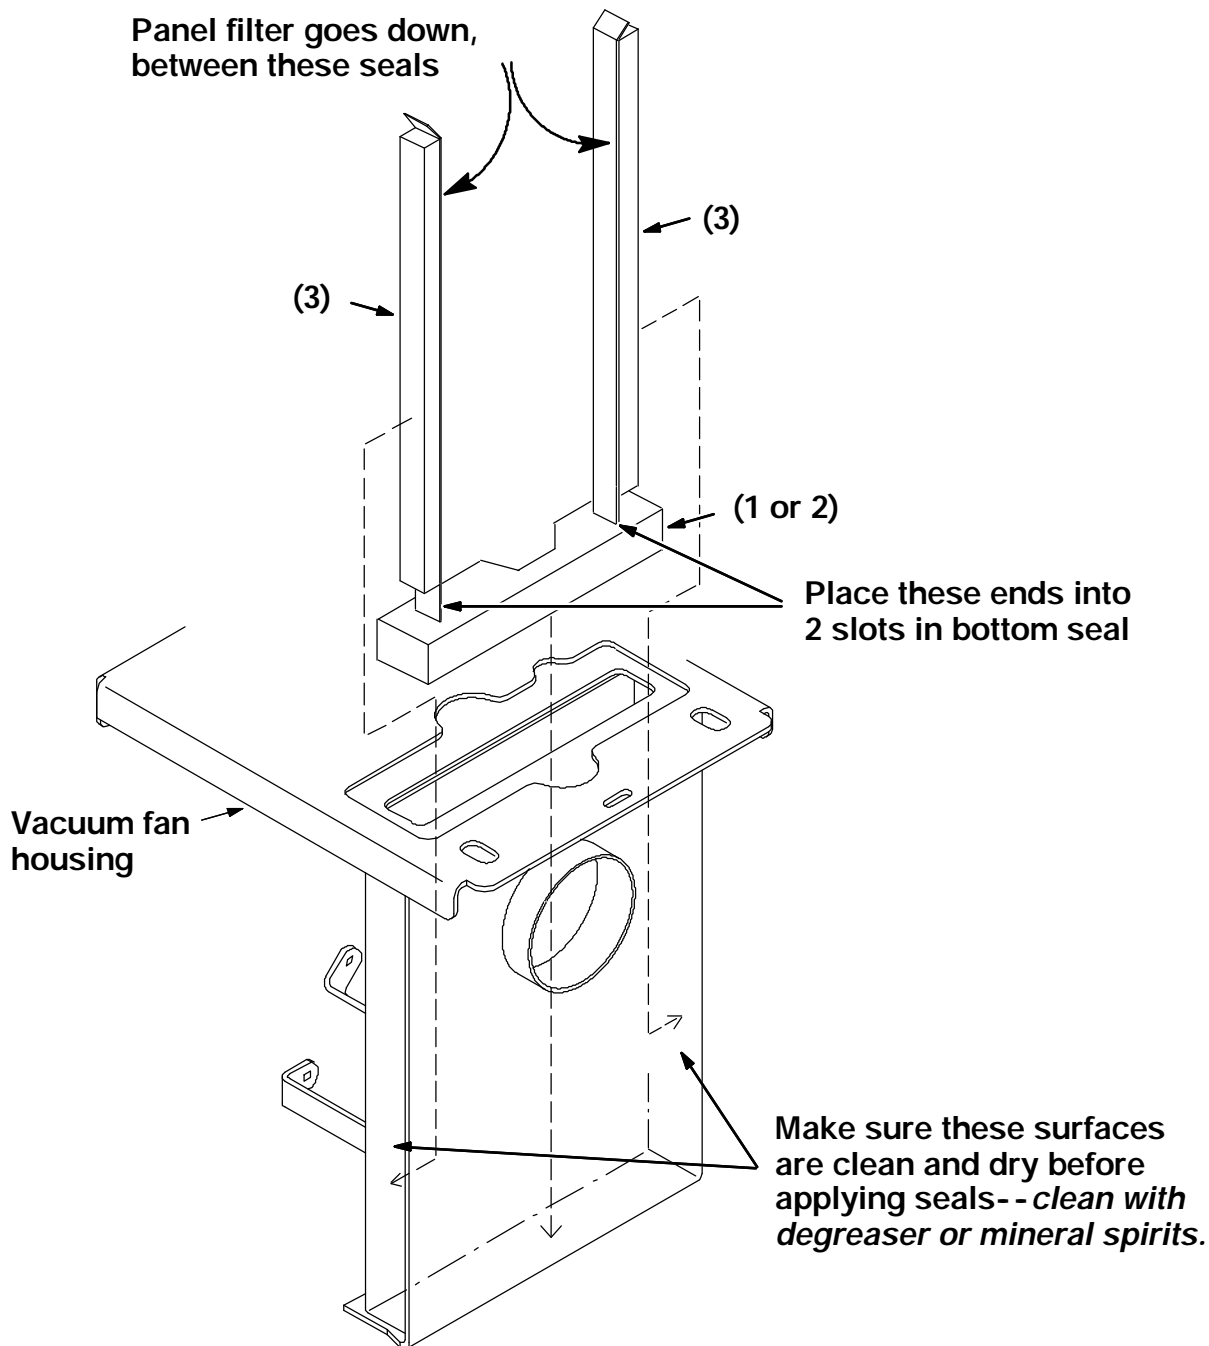

FIG. 1 - Side And Bottom Seals For Vacuum Panel Filter
(Refer to FIG. 1 and 2)
NOTE: The inside of the fan mount housing must be cleaned thoroughly before the new seals (1 and 2) can be installed. It is recommended that the vacuum fan be removed from the fan mount housing to prevent damage to the electrical motor during the cleaning process. Use degreaser or mineral spirits on the inside of the mount housing so the seals will stick properly. (Refer to FIG. 1)
6. Install the bottom seal (1 or 2) into the fan mount housing. Make sure the drain hole in the bottom of the housing is left open. (Refer to FIG. 1)
7. Peel the adhesive backing away from about half the side seals (2). (Refer to FIG. 1)
8. Install the side seals (3) down into the housing--make sure the bottom tips of the side seals (3) go into the slots in the bottom seal (1 or 2). Peel the remaining adhesive backing away from the remaining seal. (Refer to FIG. 1)